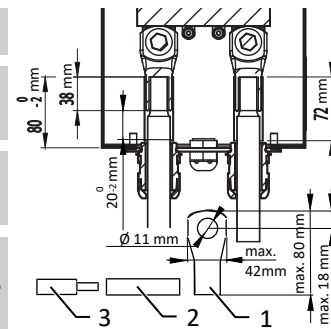

Fig. 29: Configuring the DC cable
- ↻ **WARNING! Risk of short circuit due to incorrect size of the cable lug! Observe the dimensions for the selection.** [See figure 29] [▶ Page 26]